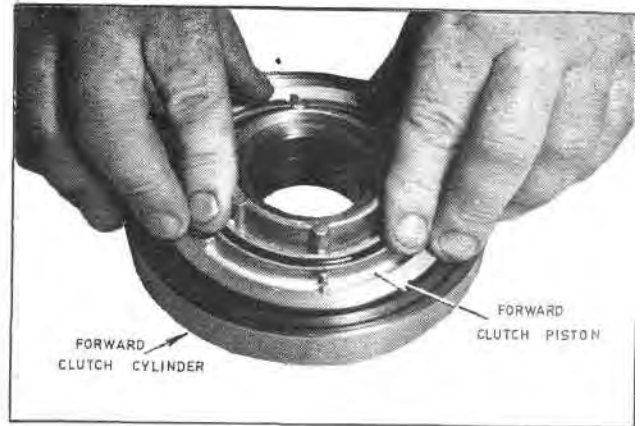

Fig. G37 — The Forward Clutch Piston
22. Check the seven (7) inner clutch plates and six (6) outer clutch plates for wear, mutilation, and warp-age. Any detectable buckle or wave renders the plate unserviceable.
24. The piston can be removed from the forward clutch cylinder to the position shown in Figure G37, by applying compressed air to the clutch cavity through the three (3) holes in the inside diameter of the forward clutch cylinder. Check the inside diameters of the clutch cylinder for wear, scoring, or mutilation.